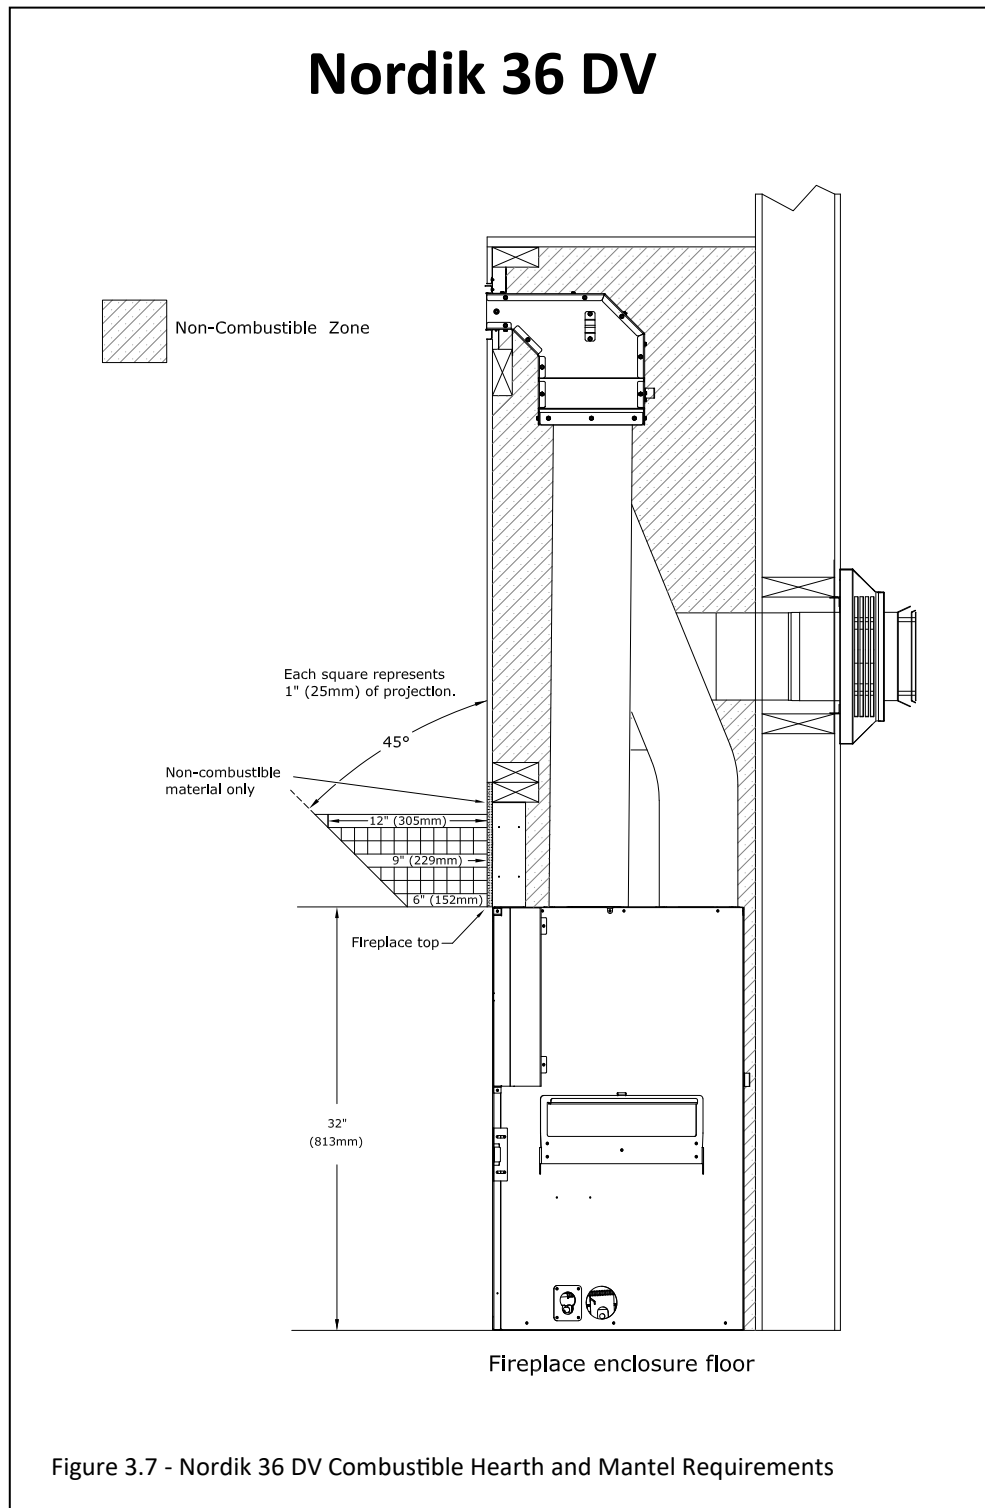

Figure 3.7 - Nordik 36 DV Combustible Hearth and Mantel Requirements
- Figure 3.7 shows the mantel and hearth projections for the Nordik 36 DV allowed when using this KZK-036. The image below shows the mantel projection starting at the top fireplace finishing edge.